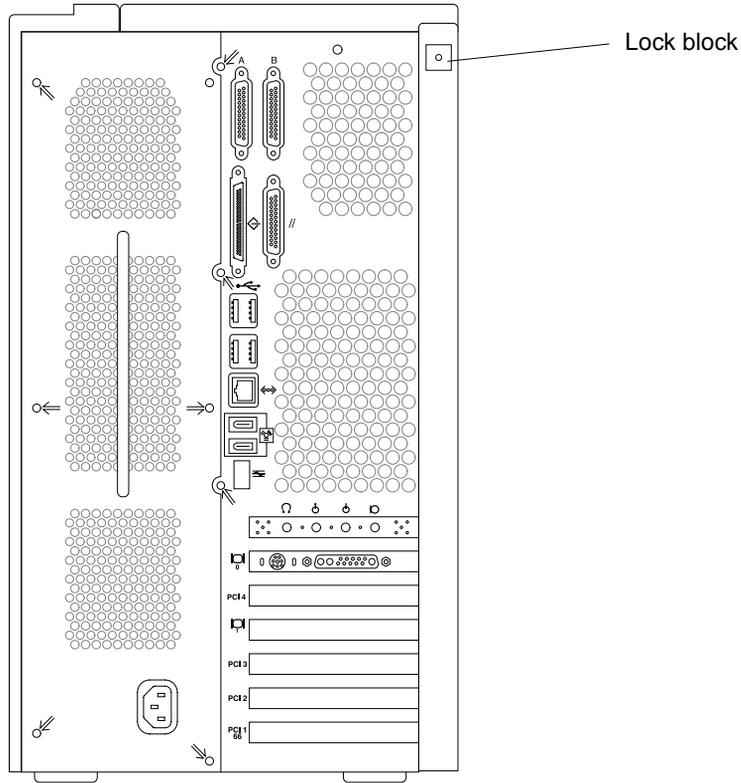

FIGURE 9-2 Lock Block Location
6. **Replace the lock block (if necessary)** (FIGURE 9-2).